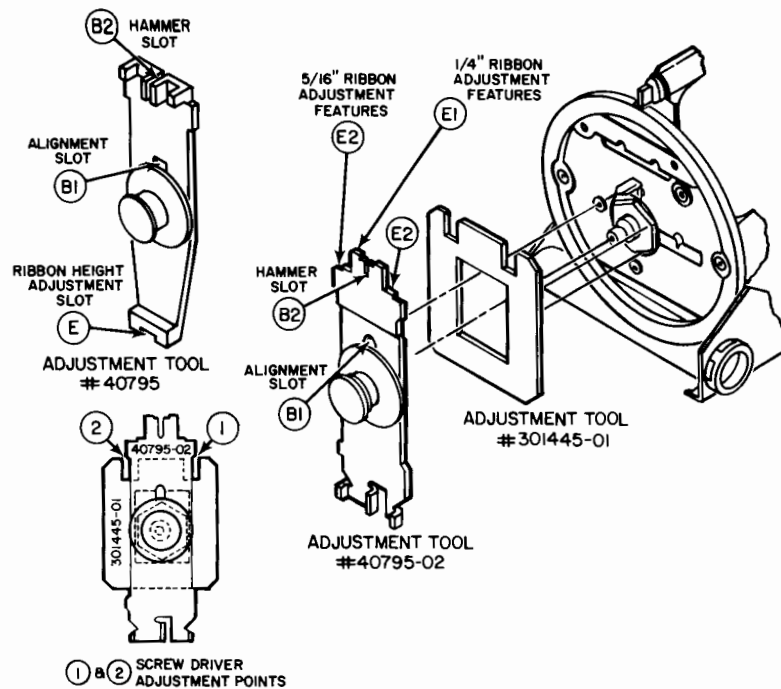

Figure 2.
### B. HAMMER TO PRINT WHEEL ADJUSTMENT (Refer to figure 2)
3. Install the adjustment tool (P/N 301445-01-DIA) over the nut on the front of the print wheel hub as shown in figure 2. Install the combination/adjustment tool (P/N 40795-02-DIA) firmly on the print wheel motor shaft hub and ensure that it is properly seated with the alignment slot engaged over the tab on the hub's alignment plate.